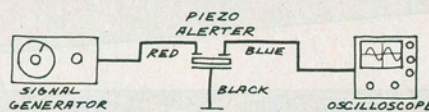

Fig. 6. Using a piezoelectric alerter as a signal filter.
**Using an Alerter as a Filter.** Figure 6 shows how to demonstrate the use of a piezo-alerter as a ceramic filter. The model PKM11-6A0 exhibited frequency-response peaks at 2.3 kHz, 7.0 kHz, 18 kHz, 27 kHz and 45 kHz. While a scope is helpful, it's possible to monitor the filter's operation by simply listening to the change in amplitude of the filter's sound output as the signal generator's frequency is varied. Of course this method only works at audio frequencies.